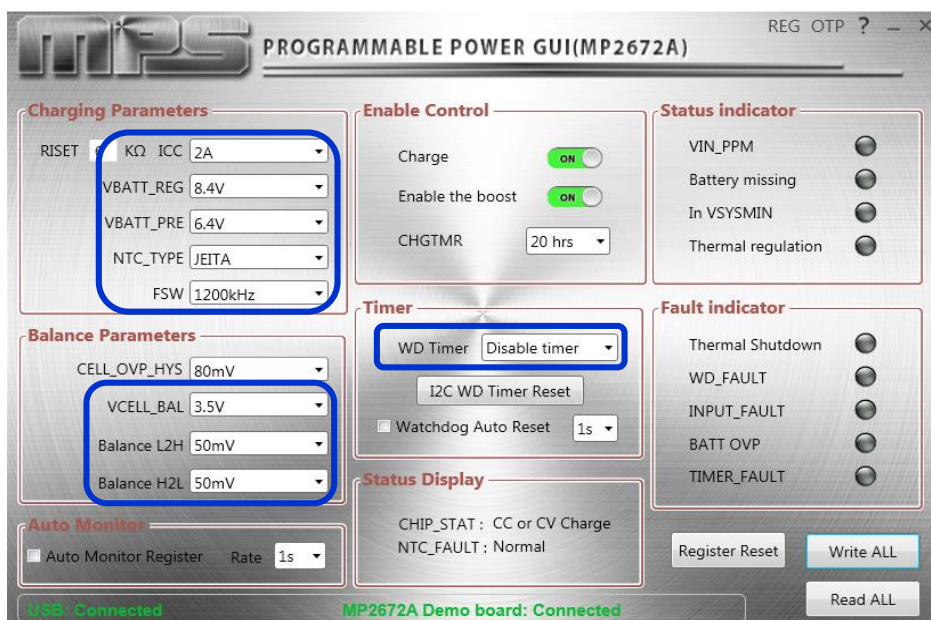

Figure 9: Adjustable Parameters in OTP Mode
4. Enter a new table (see Figure 9). All of the parameters that can be changed are highlighted in blue in Figure 9.